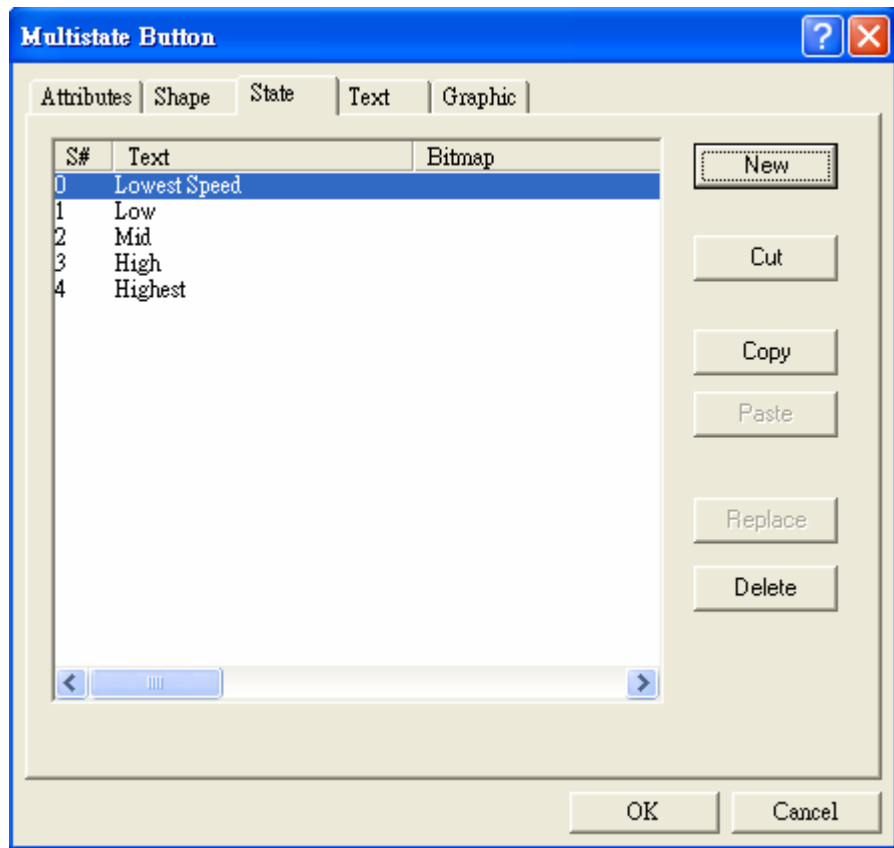

Figure 101. The [State] Tab
3. [State] Tab: Specify [New]/[Copy]/[Delete] state to the object as Figure 101.